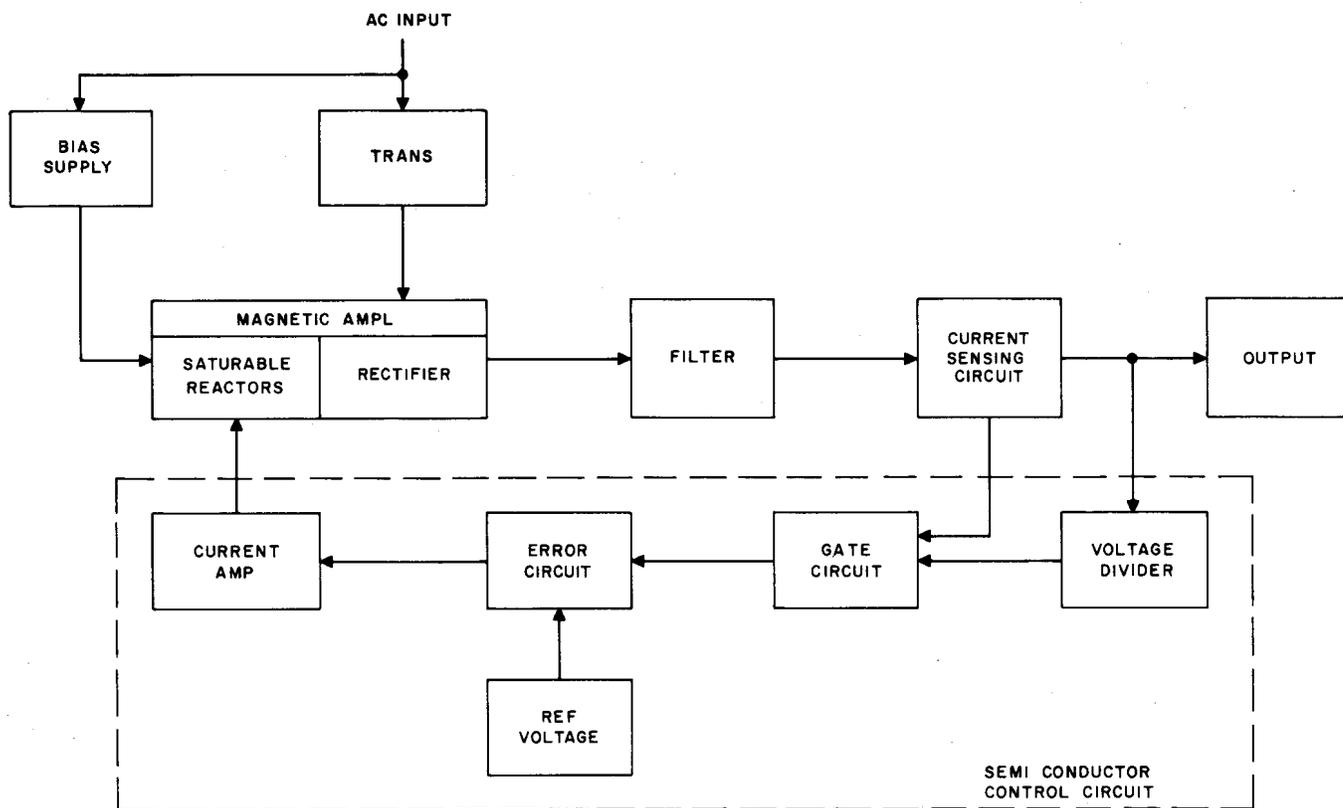

Fig. 1—J86295A Rectifier—Block Diagram
5.01 This rectifier consists of a main power circuit controlled through a semiconductor regulating circuit whose input is battery voltage through the regulating leads of the main unit. In addition, a signal from the current sensing circuit is introduced into the regulating circuit for the purpose of current limitation. The output of the regulating circuit is introduced into saturable reactors in the main power circuit in order to make the desired corrections in the power output. In the maintenance of intricate equipment, trouble must be localized in an orderly way. This is difficult in the case of a circuit having this feedback loop arrangement because trouble anywhere in the loop will give faulty operation of other parts of the loop which may be trouble free. In this rectifier, provision has been made for opening the loop by means of switches which permit checking the performance of each major subdivision of the equipment until the trouble is located. Refer to block diagram—Fig. 1.